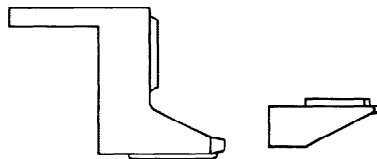

FIGURE 14
2. Remove end caps and place aside until needed. See Figure 14.